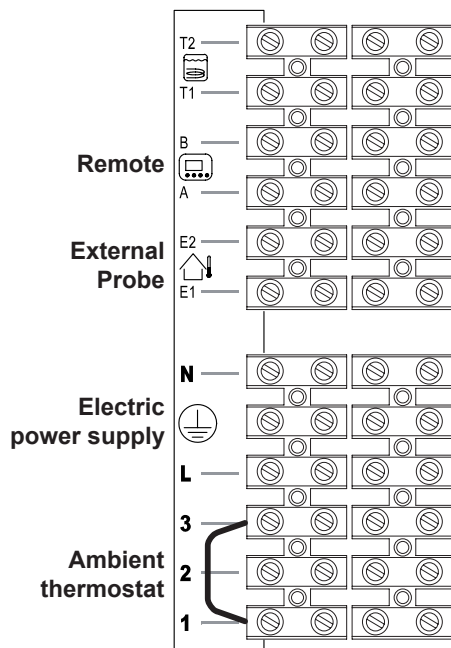
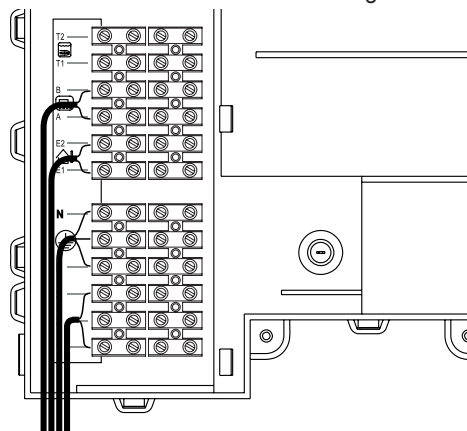
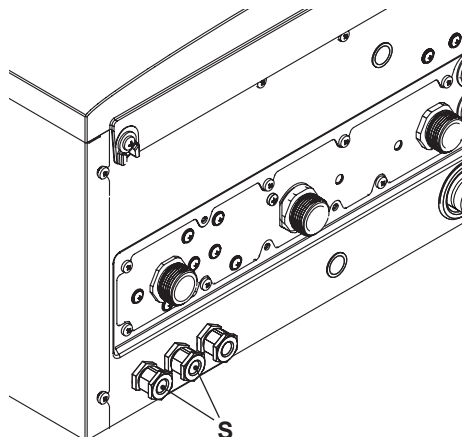

Fig. 6.17
Fig. 6.18
Fig. 6.19
- Connect the electric power supply cable coming from the fused spur isolation switch to the power supply terminal block of the boiler Fig. 6.17 keeping the same connections for the live (brown wire) and the neutral (blue wire). External 3A fuse or fused plug with same current rating is recommended.
The route of the boiler and ambient thermostat's electric power supply cable or wires must follow the route indicated in Fig. 6.18.
Allow the cables to exit the boiler by using the relevant cable clamps S (Fig. 6.19).
Use the clamps indicated in Fig. 6.17 to connect the ambient thermostat.
Use the ambient thermostat's clamps indicated in Fig. 6.17 and Fig. 6.18 to connect the zone valve. Insert the electric cables of the zone valve's micro switch contacts in clamps "1 and 3" of the ambient thermostat's terminal block as in Fig. 6.18.
The route of the boiler and ambient thermostat's electric power supply cable or wires must follow the route indicated in Fig. 6.18. Allow the cables to exit the boiler by using the relevant cable clamps S (Fig. 6.19).
The route of the external probe's connection wires must follow the route indicated in Fig. 6.18.
The route of the remote control cable must follow the route indicated in Fig. 6.18.
relevant cable clamps S (Fig. 6.19).